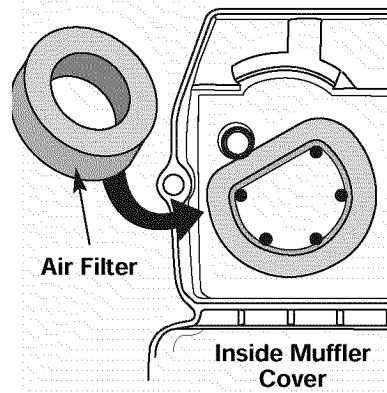

Fig. 28
2. Turn cover over and look inside to locate the air filter. Remove the air filter from inside the air filter/muffler cover (Fig. 28).
6. Replace the air filter inside the air filter/muffler cover (Fig. 28).